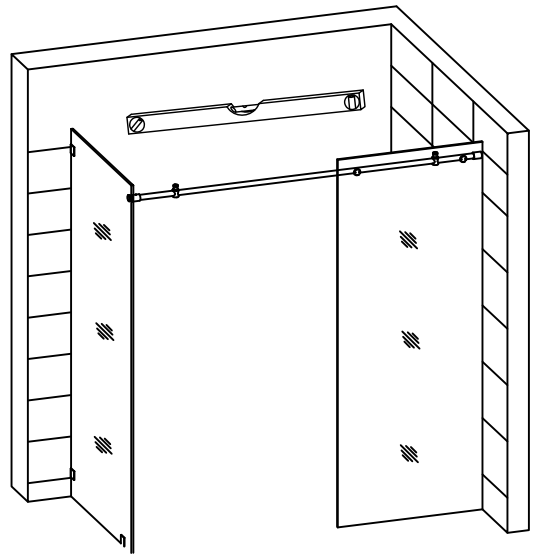

Fig. 12
12. Position the top rail / fixed glass assembly into place in your shower. Loosen the set screws in rail mount next to Return Glass Panel (23). Next connect rail mount to stainless steel fitting by threading rail mount and stainless steel fitting together and tighten into place. Tighten set screws in rail mount to secure to Top Rail (2). See Fig.12 for details.